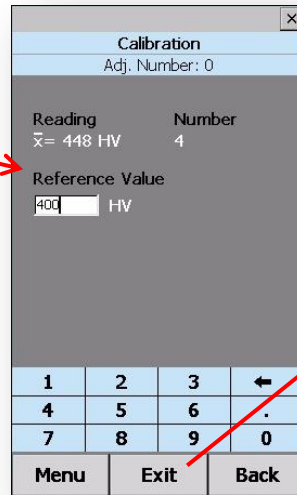

Figure 7.36
- a.) "YES": The determined average value will be immediately indicated in the "Measurement Value" field as well as in the "Nominal Value" field. The desired reference hardness value can now be entered here via the keyboard (Figure 7.36).